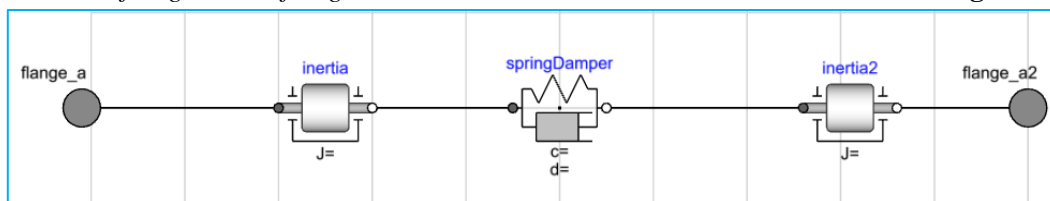

Figure 5 Connected components with flange
5. Now we will create the connector interface. Drag **Modelica.Mechanics.Rotational.Interfaces.Flange_a** and (twice!) into the model. Name them as **flange_a** and **flange_b**, then connect them to the inertias, as shown in **Figure 5** below.